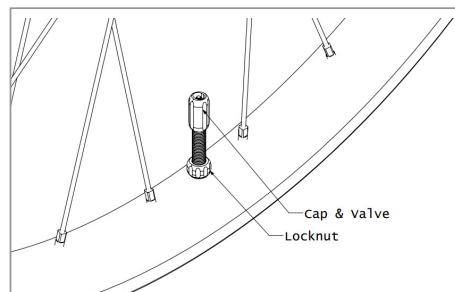

Figure 6
3. Slide the tubeless valve through the rim and spin on the lock nut (Fig. 6). Apply pressure to the rubber portion of the valve to prevent it from turning while you tighten the lock nut. Tighten the nut until you can no longer wiggle or move the valve. Do not overtighten.